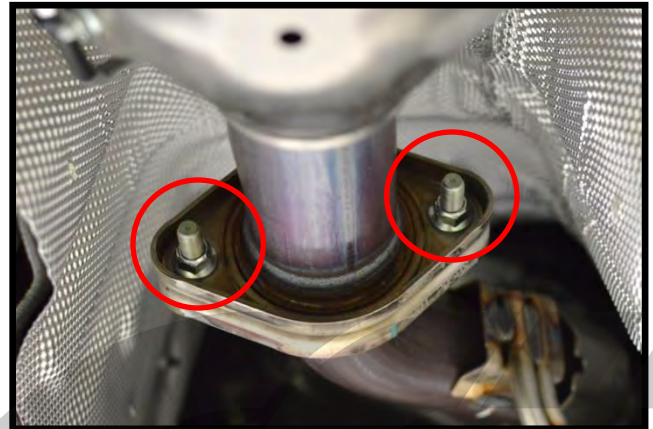

Figure 3c
- f) **Un-fasten the cat from the downpipe by removing the two (2) 14mm nuts (red circles) with a 14mm deep socket wrench (Figure 3c).**
- f) **Remove the o2 sensor (red arrow) by turning it counter-clockwise with a 22mm o2 sensor wrench. Let the sensor hang down from the wiring (Figure 3c).**